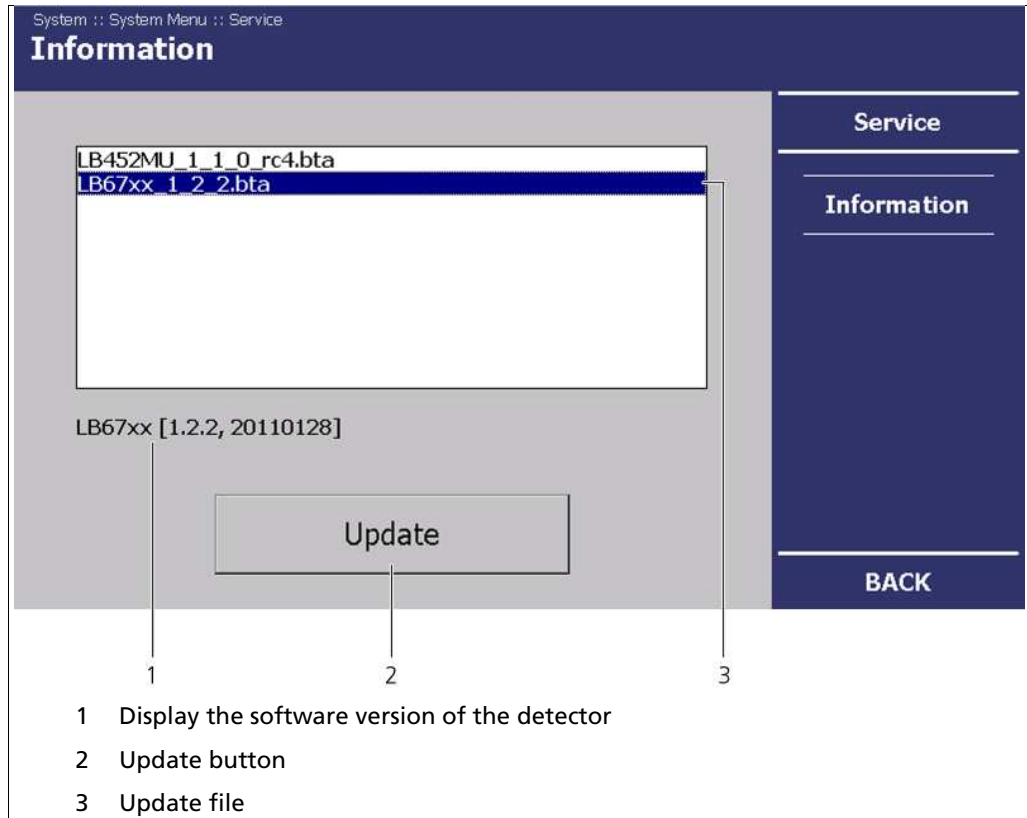

Fig. 46 System Menu, Service - Information (GAMMAcast detector update)
3. Select the appropriate update file (Fig. 46, Pos. 3).